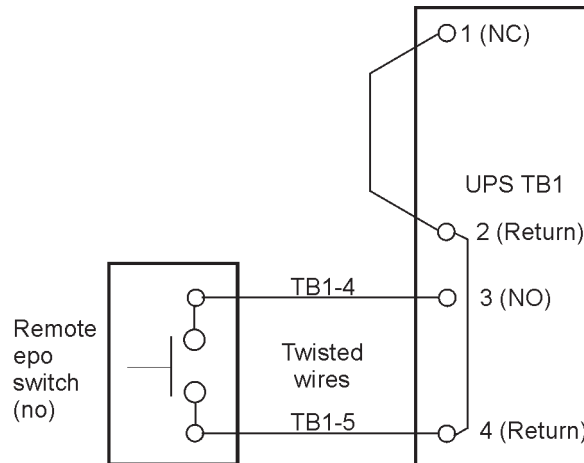

Figure 4-14. Normally-open remote EPO switch wiring
8. Route and connect the wiring as shown in Table 4-2 and Figure 4-14.